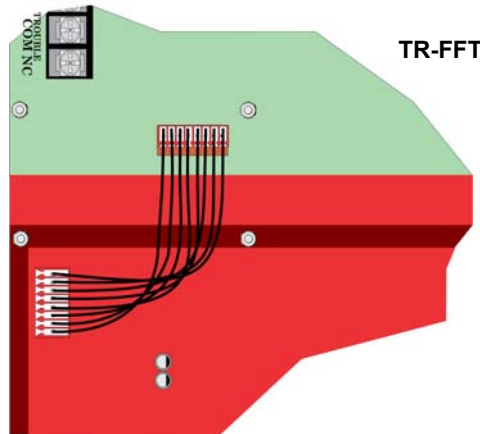

Figure 3.8 Wire Harness Connection from TR-FFT to TR-24Z-EXT Zones 25- 48
6. Connect one end of the wiring harness (P/N 130398 supplied) to the TR-FFT and connect the other end of the wire harness to the TR-24Z-EXT as shown in Figure 3.8.